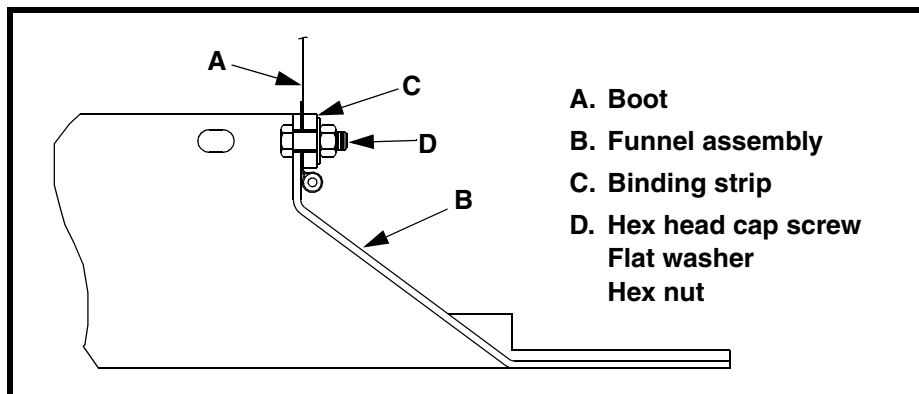

Figure 2. Attaching Boot to Funnel Assembly
3. Match holes in top end of boot (A, Figure 2) with holes in funnel assembly (B) and binding strip (C), and attach boot to outside edge of funnel.
5. Secure in place with binding strip and hex head cap screws, flat washers, and hex nuts (D).